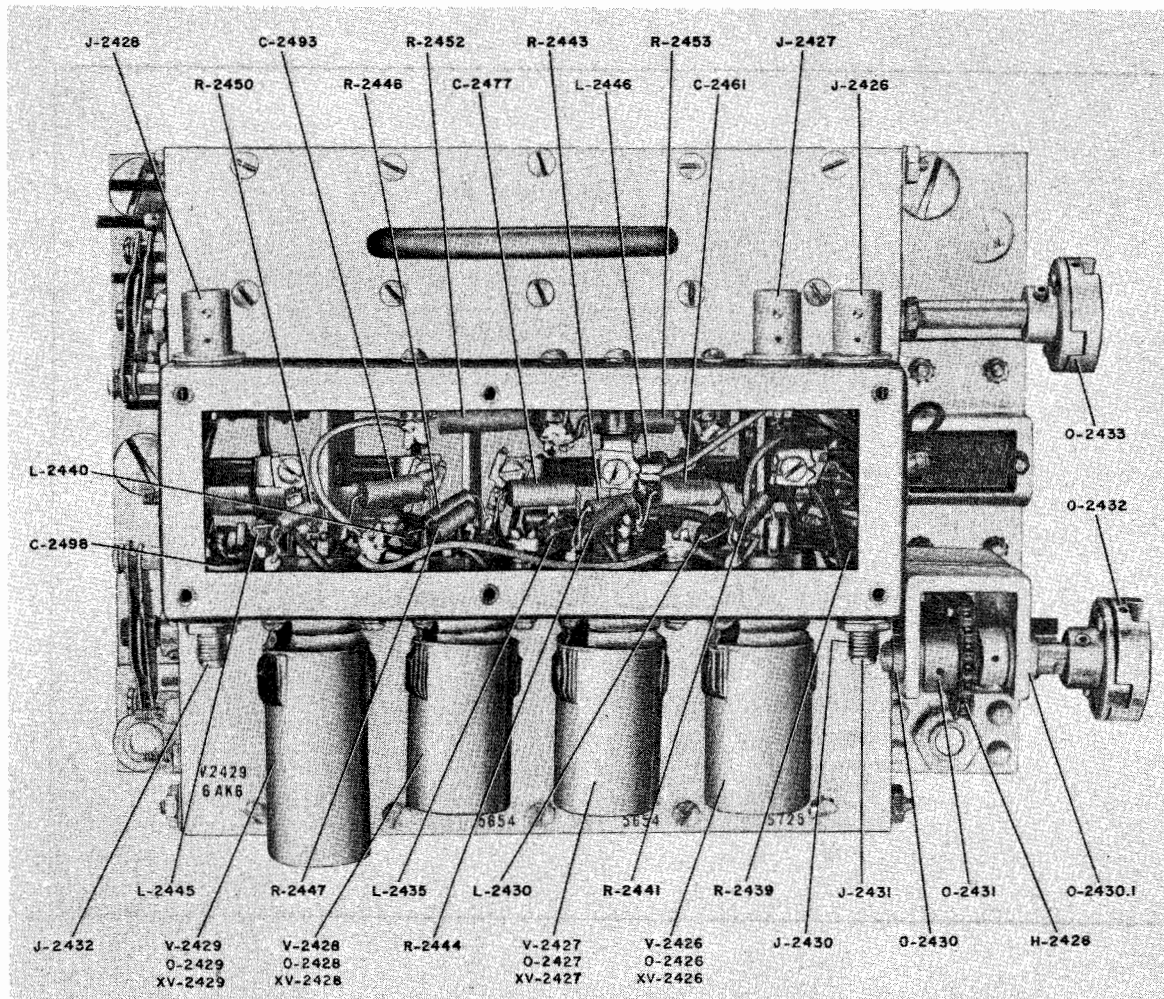

Figure 7-37. RFO, Unit 9 (Z-2426), Cover Removed, Left View
i. ELECTRONIC FREQUENCY CONVERTER, UNIT 9 (Z-2426), TROUBLE SHOOTING.—The electronic frequency converter, unit 9 (figures 7-37 and 7-38), has two inputs and one output. Table 7-19 lists the final output frequencies of unit 9 and respective knob positions. The nominal r-f voltage may be measured at the test points on unit 9, by means of Multimeter ME-25A/U, using the r-f probe (table 7-18).